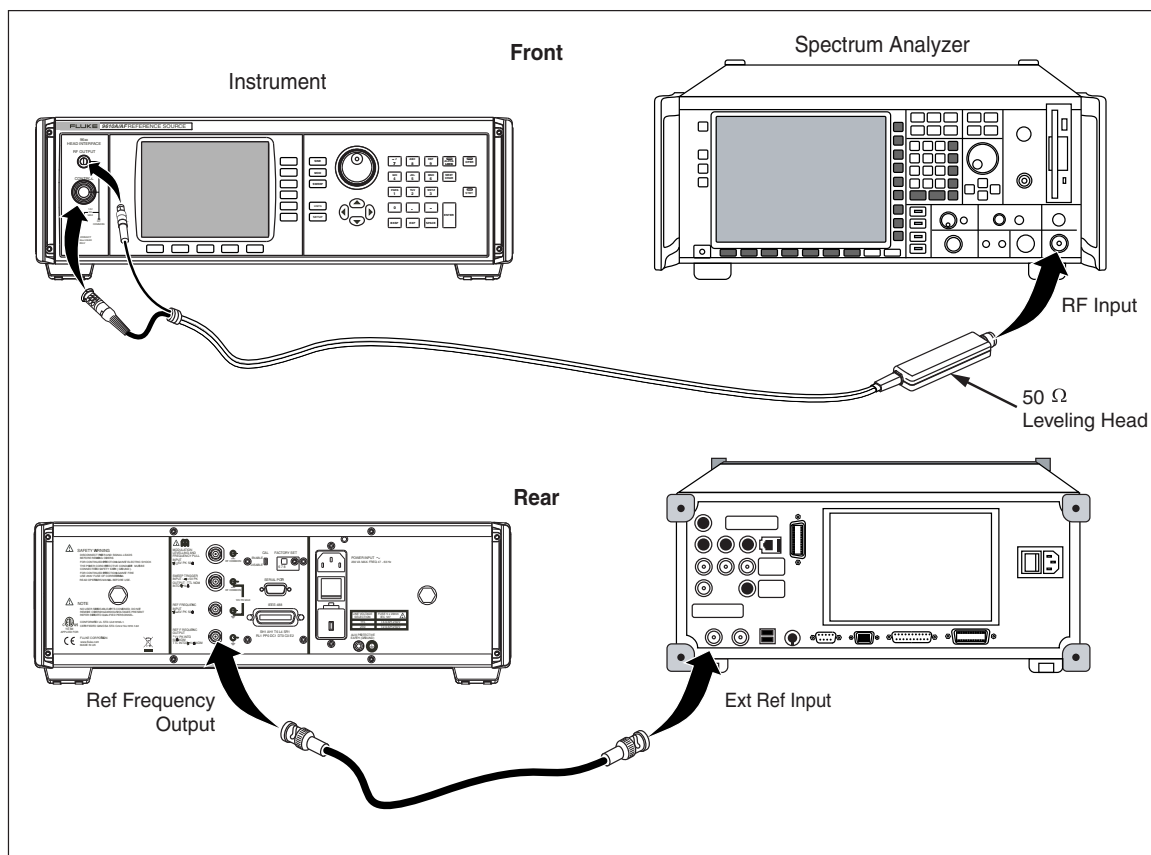

Figure 5-6. Level Accuracy Tests (50 Ω), Low Level Points
28. Connect the Leveling Head to the RF INPUT of the measuring receiver and connect the REF FREQUENCY OUTPUT (rear panel) from the UUT to the spectrum analyzer Ext Ref In (on rear). See Figure 5-6 for equipment connections.